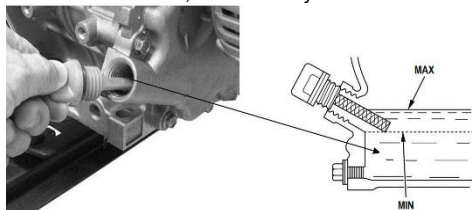

Fig.17
ENGINE OIL CHANGE (fig.17)
1. Unscrew the crankcase cover/dipstick (Fig. 11, Fig. 17).
2. Unscrew the oil drain plug (Fig. 1) and drain the oil into a special container (Fig. 17)